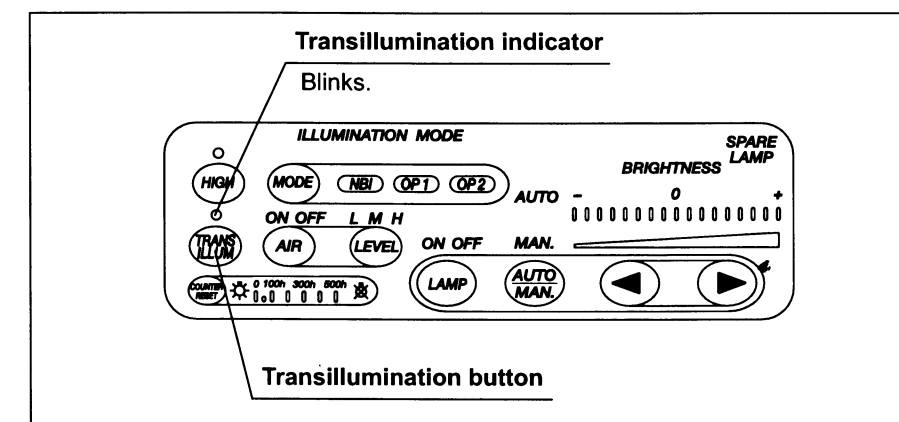

Figure 4.9
1. Press the transillumination button. The transillumination indicator blinks and the examination light is set automatically to the maximum intensity (see Figure 4.9).